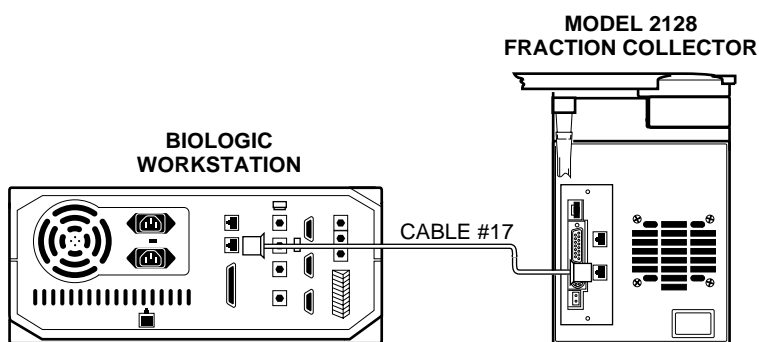

Figure 2. Connecting the Model 2128 Fraction Collector to the BioLogic Workstation
- a. Connect the Model 2128 Fraction Collector to the BioLogic System using the supplied instrument bus cable (System Cable 17). (Refer to Figure 2.)